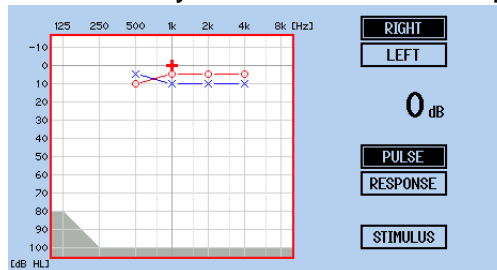

Figure 21
- **Graph:** The level and frequency of the response is highlighted by a red **O** for the right ear and blue **X** for the left ear. The results are connected by lines when octave frequencies are tested (Figure 21).